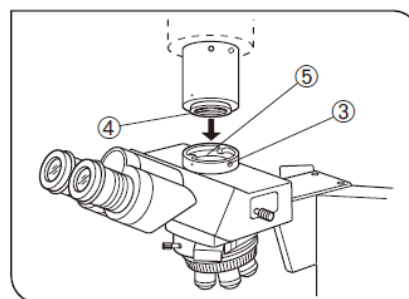

Fig. 2
2. Using the Allen screwdriver provided with the microscope, loosen the straight photo tube clamping screw 3, then fit the mount dovetail 4 of the C-mount adapter into the straight photo tube mount 5 of the trinocular tube. (Fig. 2) (#For convenient parfocality adjustment, set the C-mount adapter so that the LOCK and FOCUS screws face sideways.)
3. Tighten the clamping screw 3 firmly. (Fig. 2)